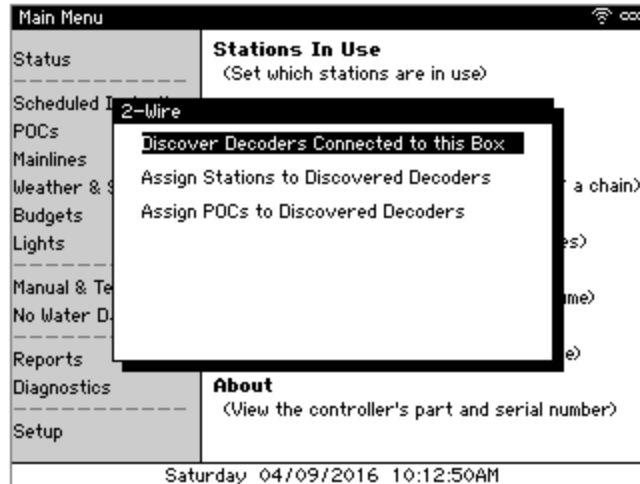

Figure 2 - 2-Wire dialog
2. Navigate to **2-Wire** and press **SELECT**. The 2-Wire dialog displays (Figure 2).